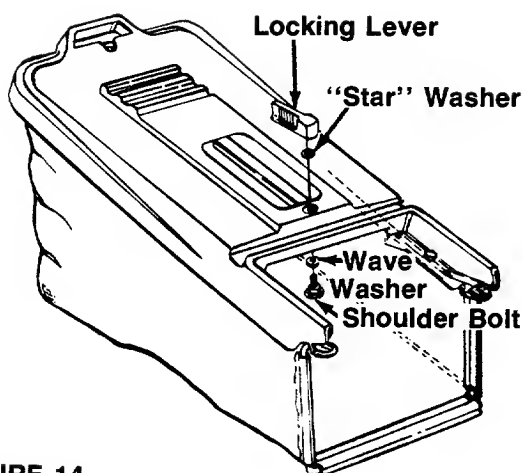

FIGURE 14.
- Insert shoulder bolt up through hole in hardtop cover as shown in figure 14. Place "star" washer over shoulder bolt.